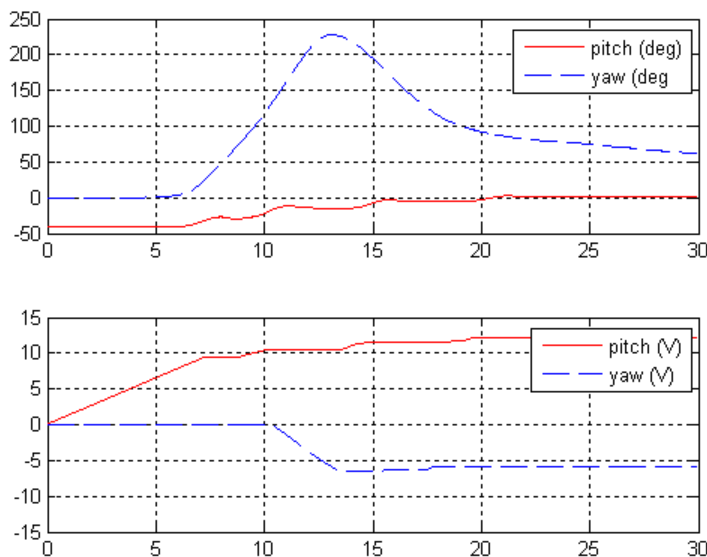

Figure 33: Effect of pitch on yaw.
15. As depicted in Figure 33, you will notice that the yaw angle moves clockwise in the positive direction as the voltage in the pitch motor increases. Compensate for this coupling effect by moving the joystick arm to the left and apply a negative voltage to the yaw motor. As illustrated, the pitch is eventually stabilized at about 0 degrees when the pitch motor voltage is approximately 12.5 V and the yaw begins to stabilize when feeding a voltage of about -6.0 V to the yaw motor. The voltage does not surpass the limit of the power amplifiers: ± 24 V for UPM-2405 and ± 15 V for UPM-1503.